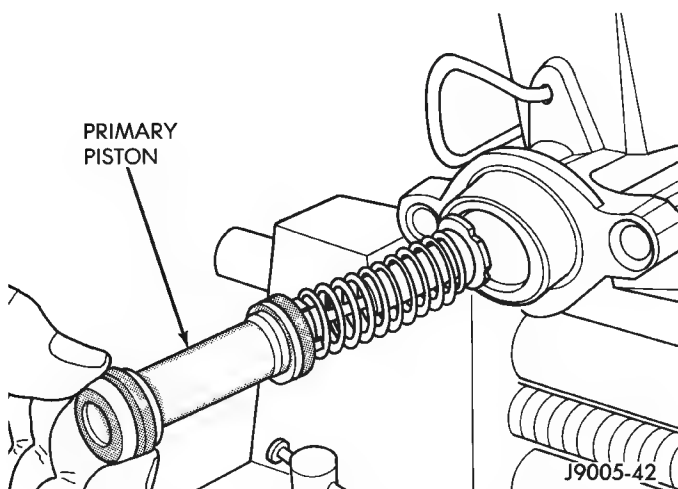

Fig. 5 Removing/Installing Primary Piston
(4) Remove and discard primary piston (Fig. 5). Piston is serviced only as assembly.
(3) Insert primary piston in bore (Fig. 5).